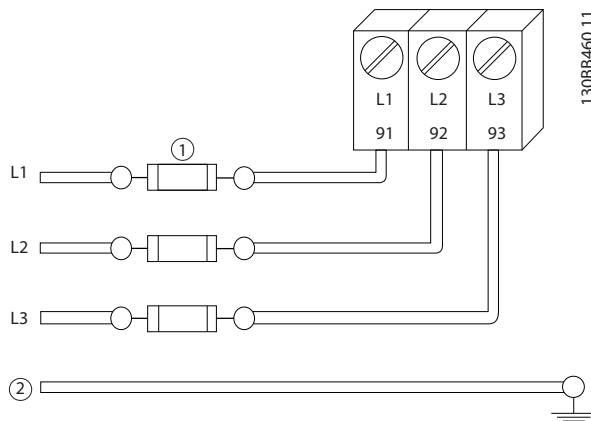

Figure 2.7 Adjustable Frequency Drive Fuses
- All adjustable frequency drives must be provided with short-circuit and overcurrent protection. Input fusing is required to provide this protection, see *Figure 2.7*. If not factory supplied, fuses must be provided by the installer as part of installation. See maximum fuse ratings in *chapter 10.1 Power-dependent Specifications*.